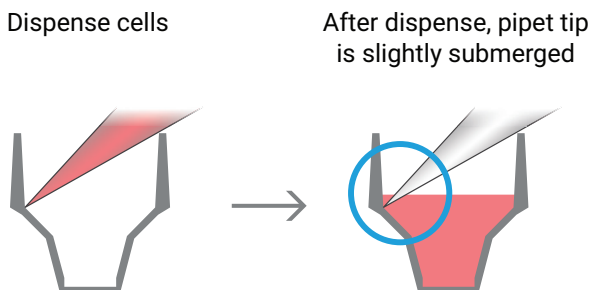

Figure 5. Proper pipetting technique for dispensing cells into the Agilent Seahorse XF tissue culture microplates.
2. The pipette tips should be at $\sim 45^\circ$, approximately halfway down the side wall, and should touch the wall of the well (Figure 5). The pipette should be held at the same angle for all wells.